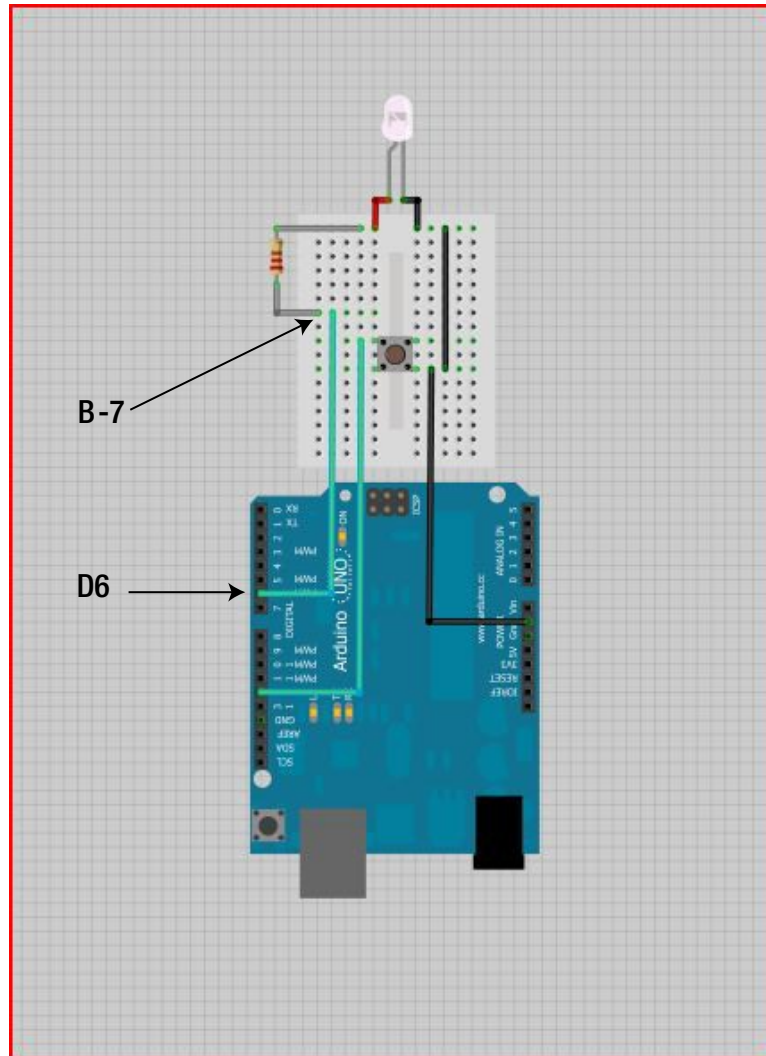

Figure 7-11. Attach resistor to digital pin 6 on the Arduino
8. Insert one end of another jumper wire (we used green again) into D6 on the Arduino and the other end of the jumper wire into B-7 on the mini-breadboard. Figure 7-11 illustrates this process.
9. This last step is optional, but you might find it fun. Make sure your wires are lying down like those shown in Figure 7-11. Then visit our web site at <http://arduinoadventurer.com> and download a PDF file to print on card stock to create an enclosure for your gizmo.